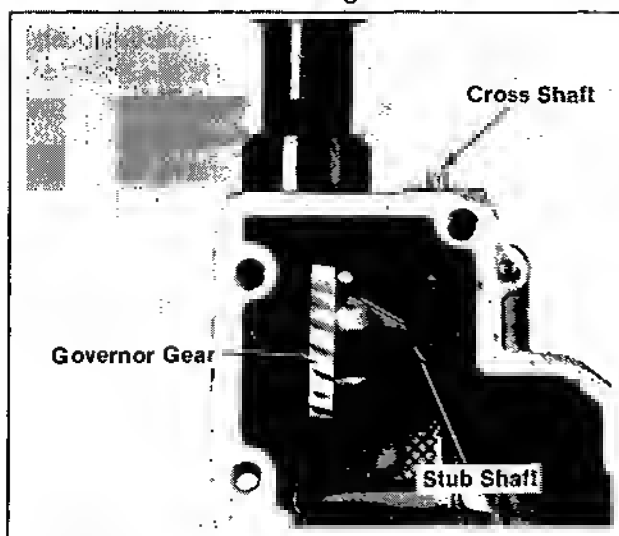

Figure 11-8. Installing Governor Gear.
2. Install the thrust washer and governor gear to stub shaft. Refer to Figure 11-8.